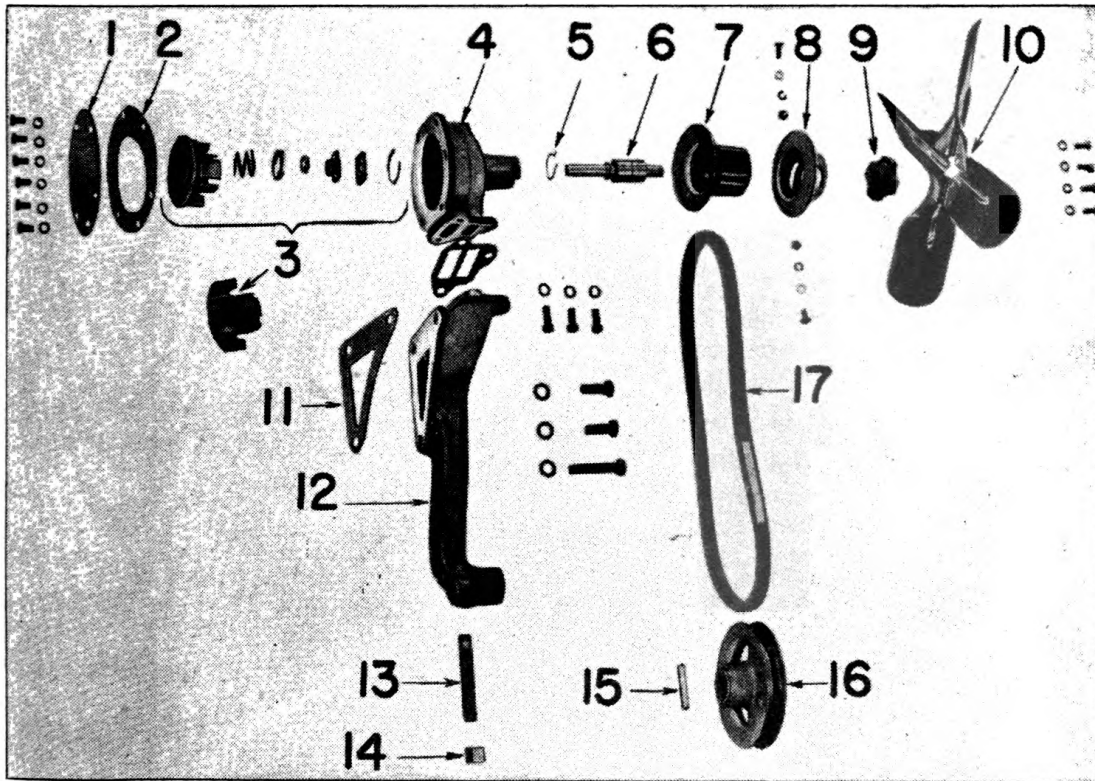

Fig. 31. Details of Water Pump
1. Remove the fan blades No. 10 Fig. 31 by taking out four cap screws that hold fan pulley hub No. 7 Fig. 31 to hub No. 9 Fig. 31 on water pump shaft.
3. Loosen the three cap screws which attach the water pump to the water connection No. 12 Fig. 31 on the front of the engine. Remove the water pump complete as shown in Fig. 10.
1. Remove back plate No. 1 Fig. 31 on water pump housing by taking out six  $\frac{5}{16} \times \frac{5}{8}$  inch cap screws. Use care so that gasket No. 2 Fig. 31 is not damaged.
2. Remove impeller No. 3 Fig. 31 by using suitable puller. **Do not drive off** as this will damage end of impeller.
3. Remove snap ring No. 5 Fig. 31 on the fan blade end of bearing and **drive out** water pump bearing assembly. This should be driven away from the the impeller or toward the fan end of pump.
2. If the water pump bearings No. 6 Fig. 31 are worn, a complete new water pump bearing assembly should be installed by pressing into place and re-installing the snap ring No. 5 Fig. 31.